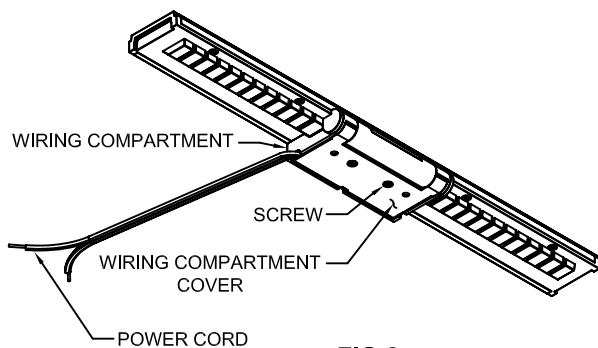

FIG.2
2. POWER CORD can be routed out left, right or center of WIRING COMPARTMENT. To change POWER CORD location loosen SCREWS on back of WIRING COMPARTMENT. Remove WIRING COMPARTMENT COVER and re-route POWER CORD to desired location. Replace WIRING COMPARTMENT COVER and secure in place with SCREWS. (FIG.2&3).